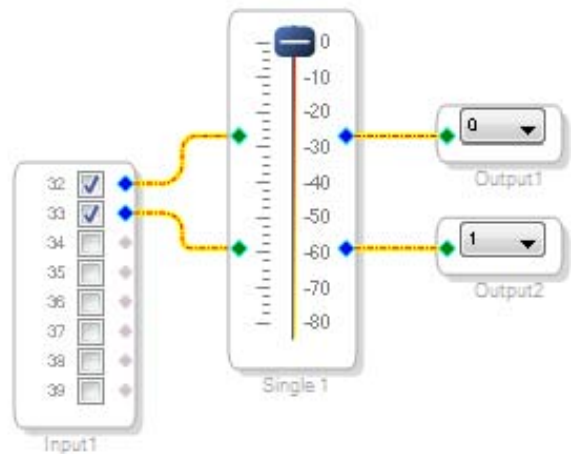

Figure 28. Completed Signal Flow with Volume Control
- Connect the blocks as shown in Figure 28.